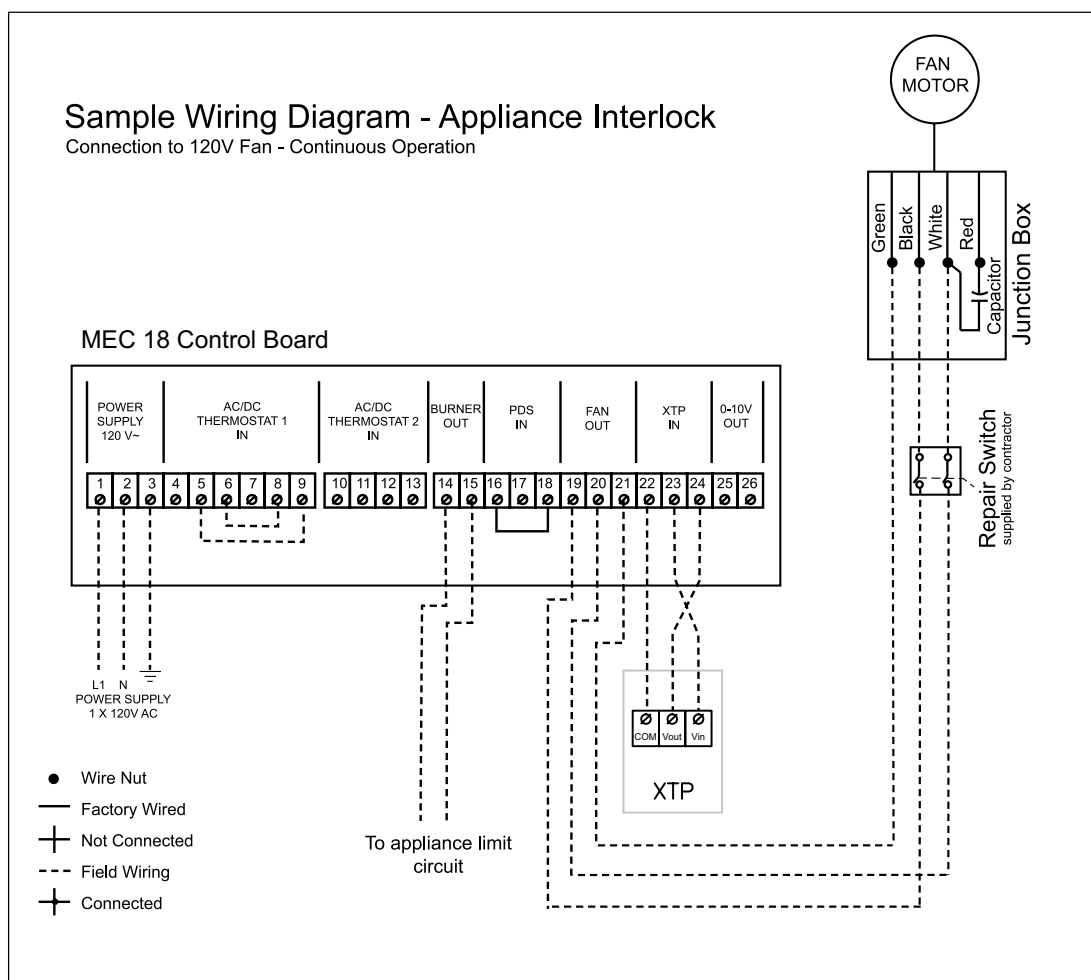

Fig. 7
- If using a 1x120V fan, connect it to terminals 19, 20 and 21. Refer Fig. 7 and the fan's Installation Manual.